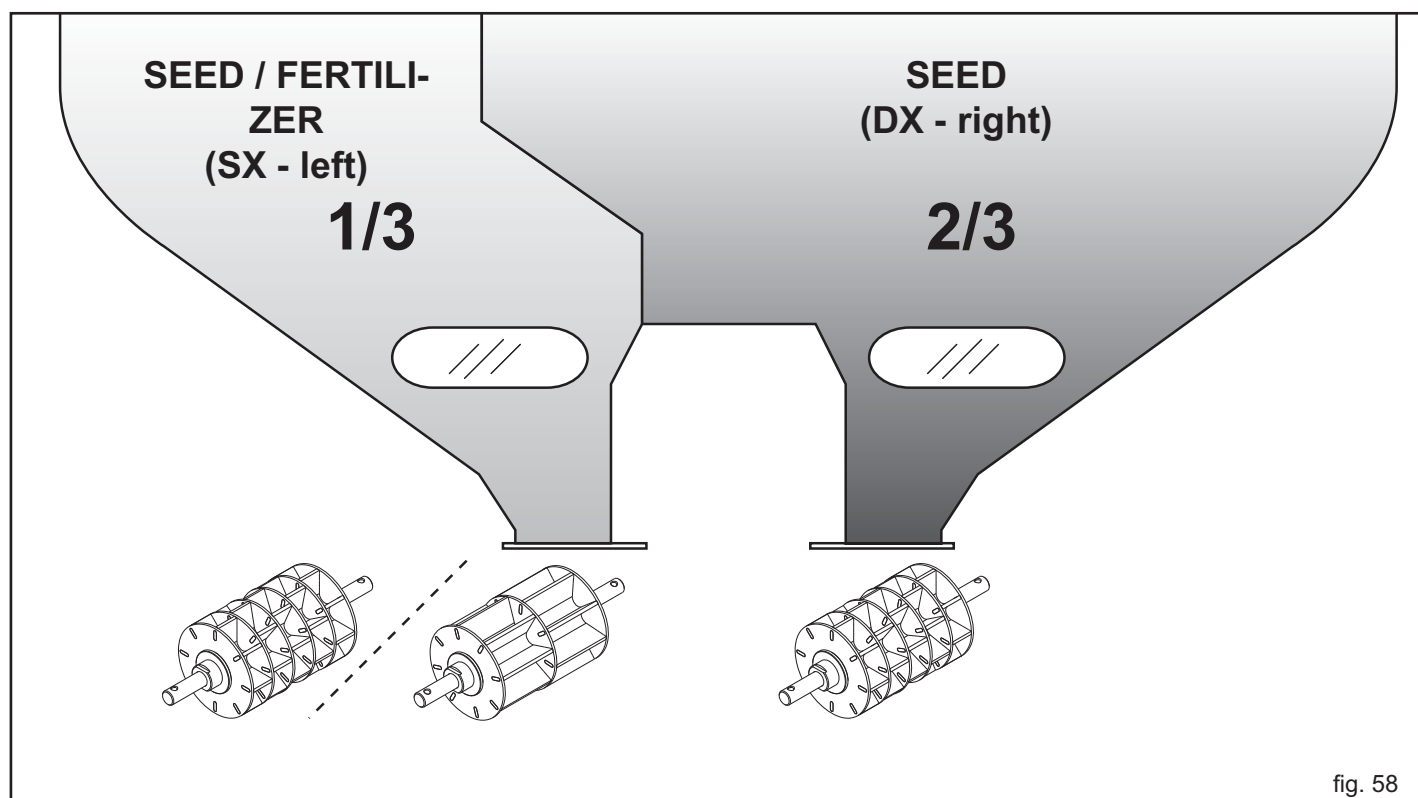

fig. 58
The hopper is divided into two compartments: the capacity of the seed compartment equals 2/3 of the total capacity; that of the fertilizer or seed compartment, depending on the configuration in use (Fig. 58), is 1/3 of the total. **Replace the metering roller on the left-hand side (SX) and adjust the overflow bulkhead when switching from one configuration to the other.**